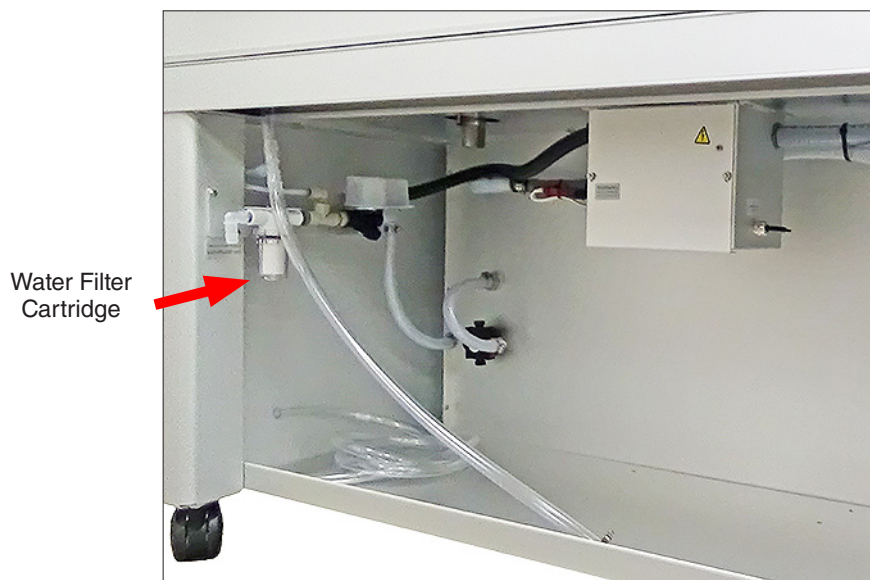

Figure 16.4a: Water filter cartridge location.
- Inspect the water filter cartridge (Figure 16.4a) every 6 months.